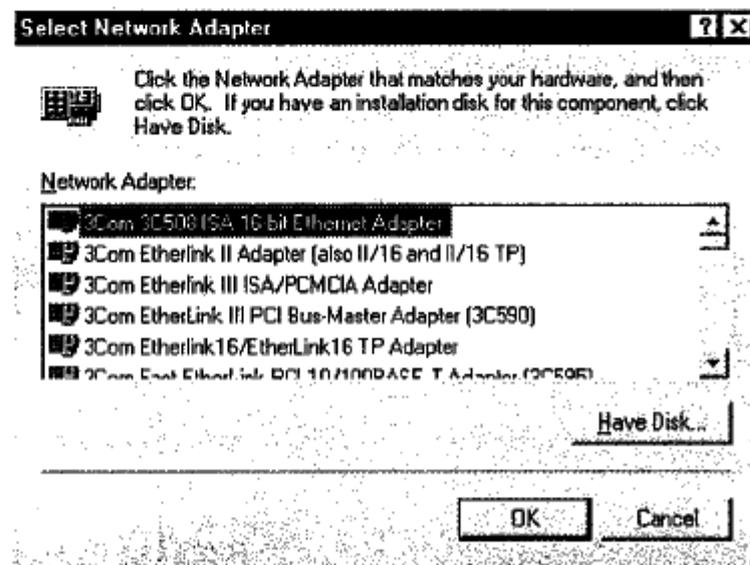

Figure 3-25
5. In the "Select Network Adapter" dialog box, select the "Have Disk" as shown in figure 3-25.